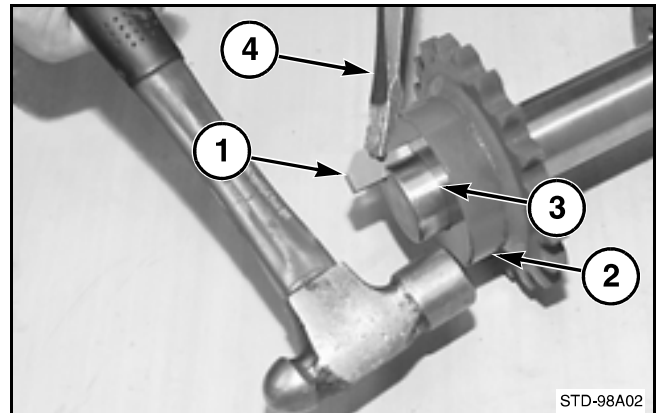

FIG. 12
FIG. 12: Gib keys (1) are tapered keys with a tang on the thick end. A gib key is both a locking component and hub retainer. The hub (2) must have a tapered key way that fits the gib key. The gib key will lock the hub in position. No other locking component such as a set screw is needed.